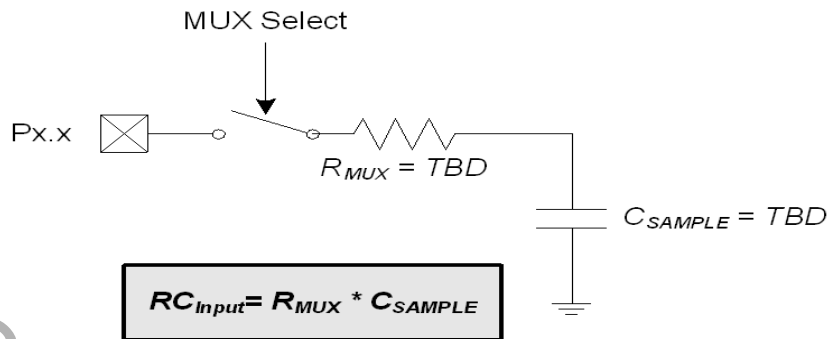

Figure 5.5. ADC0 Equivalent Input Circuit
Figure 5.5 shows the equivalent ADC0 input circuit. The required ADC0 settling time for a given settling accuracy (SA) may be approximated by Equation 5.1. When measuring the Temperature Sensor output, use the settling time specified in Table 6.10. When measuring V_{DD} with respect to GND, R_{TOTAL} reduces to R_{MUX} . See Table 6.9 for ADC0 minimum settling time requirements as well as the mux impedance and sampling capacitor values.